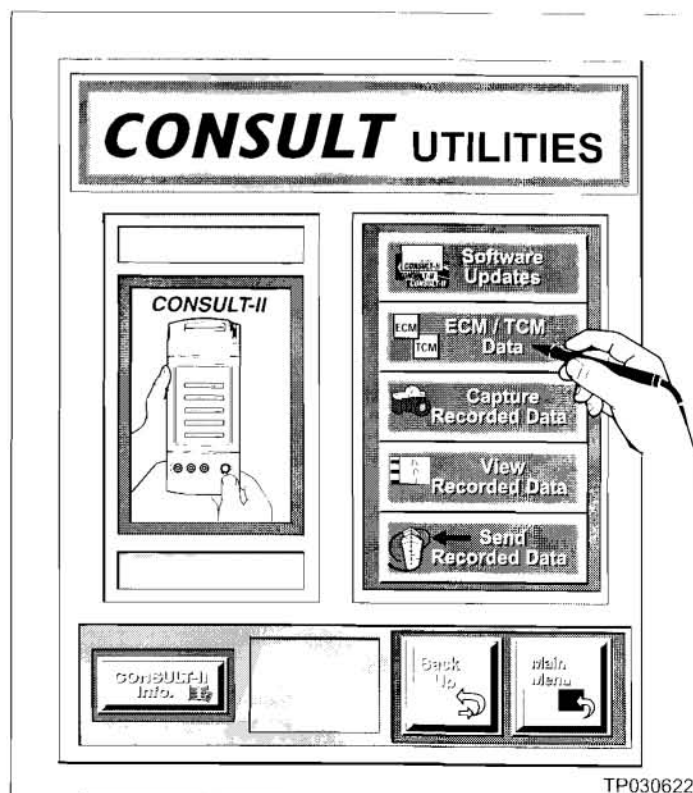

Figure A5
6. From the **"CONSULT UTILITIES"** screen, select **"ECM / TCM DATA"** (see Figure A5).